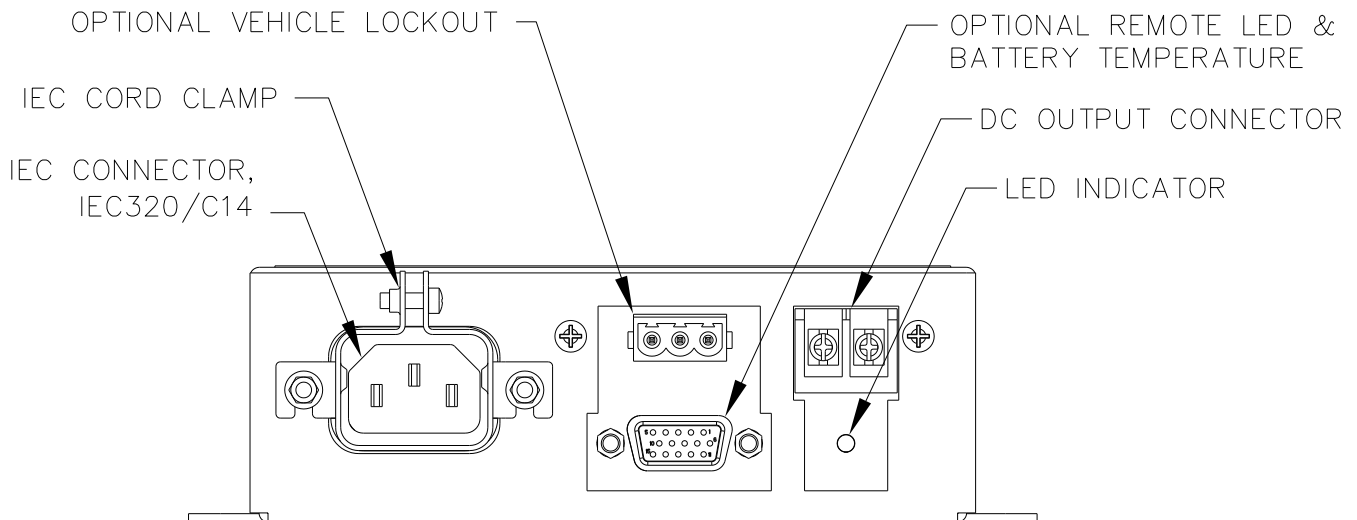

Figure 5-1 Charger User Interface
Figure 5-1 identifies the items found on the charger user interface.
The charger includes externally accessible screw terminals for the DC output (see Figure 5-1). When connecting a cordset or wire assembly to the DC output screw terminals, ensure that the other end of the cordset or wire assembly is disconnected. The screw terminals should be torqued to 8.8 in-lbs. The “+” marked screw terminal must be connected to battery positive (+). The “-“ marked screw terminal must be connected to battery negative (-). The charger will not operate if the polarity is reversed.
The charger includes one (1) local LED that can display three (3) colors to indicate charger status and fault information (see Figure 5-1). The functionality of the LED is outlined below. If an optional remote LED is being used, it will provide the same functionality.